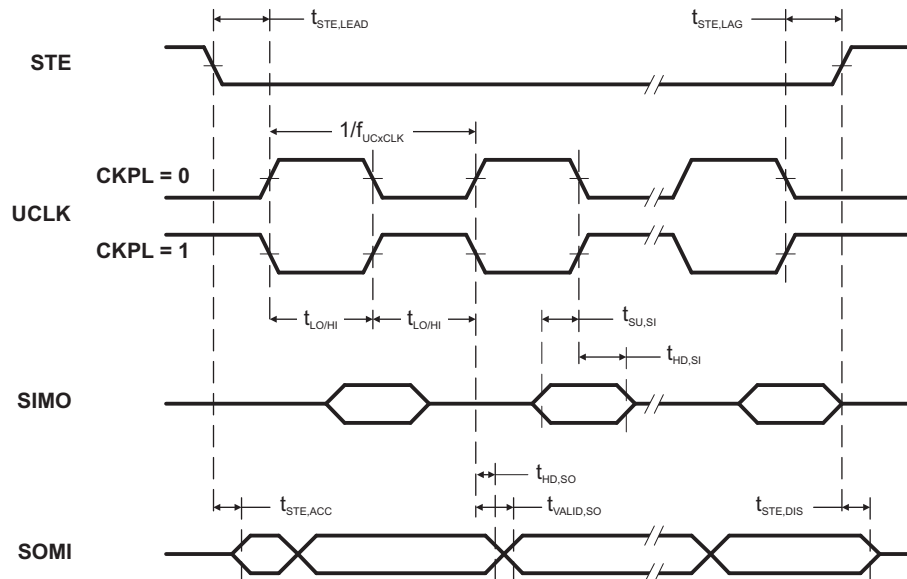
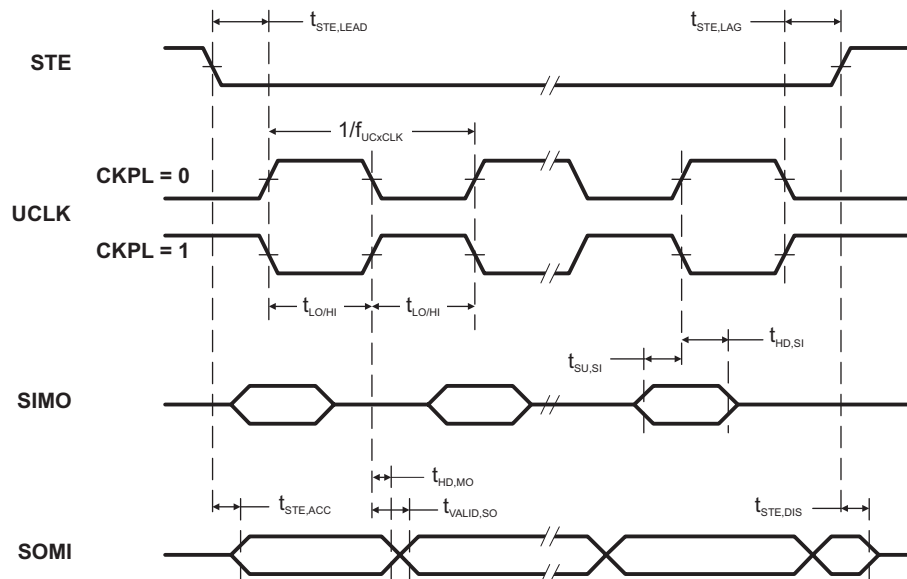

Figure 14. SPI Slave Mode, CKPH = 0
Figure 15. SPI Slave Mode, CKPH = 1
(see Figure 14 and Figure 15)
- Specifies the time to drive the next valid data to the SOMI output after the output changing UCLK clock edge. See the timing diagrams in Figure 14 and Figure 15.
- Specifies how long data on the SOMI output is valid after the output changing UCLK clock edge. See the timing diagrams in Figure 14 and Figure 15.